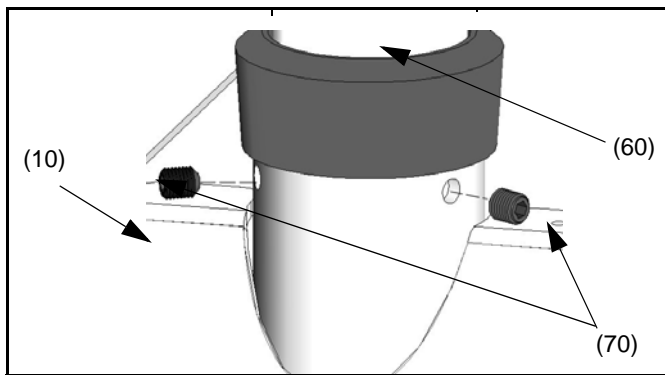

Figure 6: Secure Tube(s)
2. Secure tubes (60) using four 5/16-18 X 3/8 socket head set screws (70), (see figure 6).